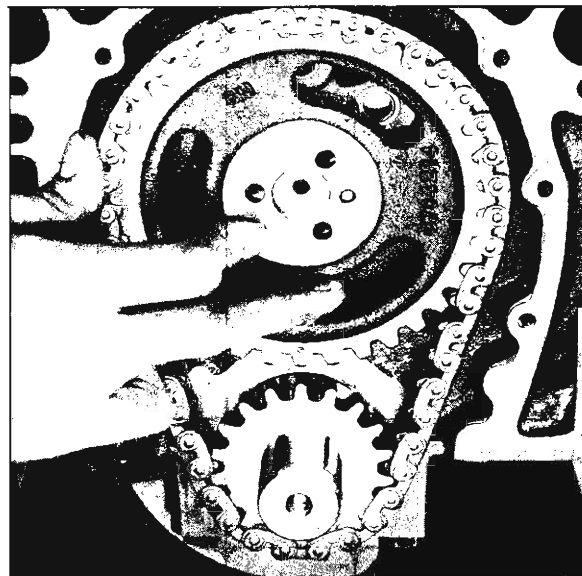

Fig. 14W—Installation of Timing Chain
7. Align dowel in camshaft with dowel hole in camshaft sprocket and install sprocket on camshaft (fig. 14W).